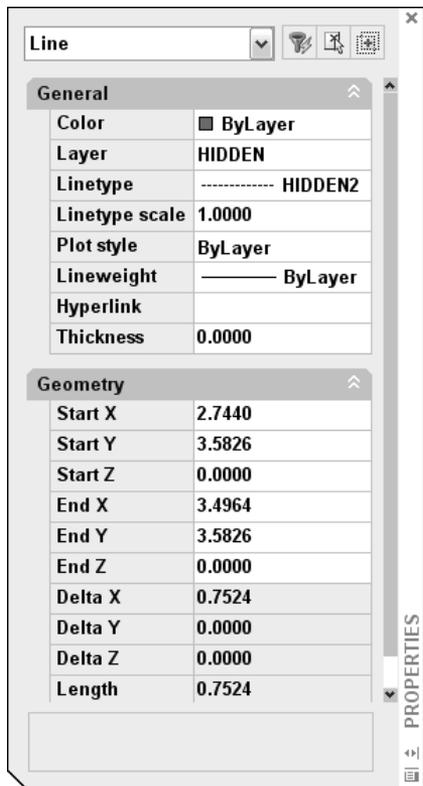

Figure 11-18: The Properties palette.
- ♦ If you want to change other properties at the same time, select the object and choose Properties from the Standard toolbar. The Properties palette opens, shown in Figure 11-18. In this window, you can change all the properties of the object. To change the color, choose Color and click the drop-down arrow that appears. Choose the color that you want.
- ♦ Select the object and choose Properties from the Standard toolbar. The Properties palette (refer to Figure 11-18) opens. To change an object’s linetype, click Linetype, and then click the drop-down arrow that appears. Choose from one of the linetypes.